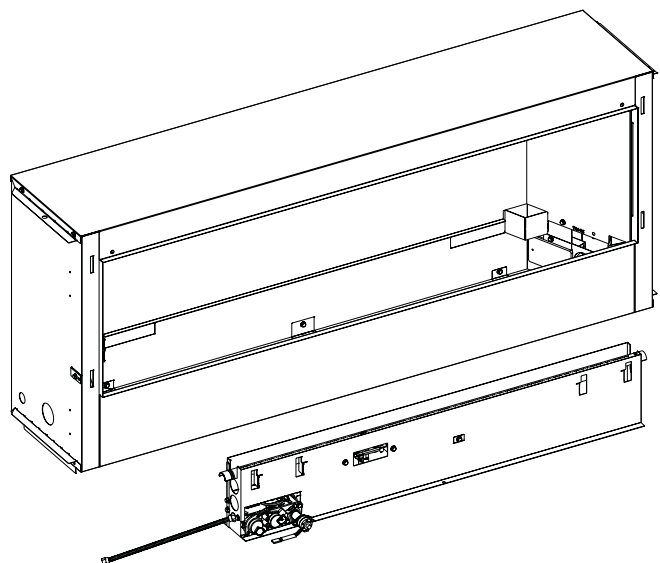
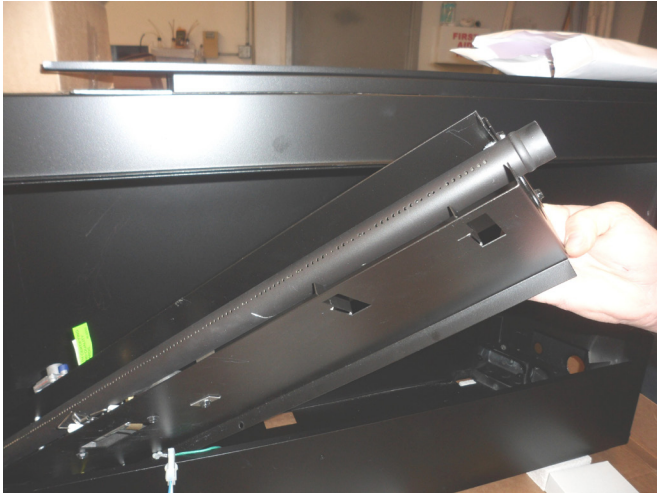

Figure 12
Figure 13
3. Lift the complete burner and valve assembly upward, then turn it sideways in fireplace opening to gain easy access to the junction box. **See Figure 13.** You may remove the complete burner and valve assembly as shown in **Figure 12.**